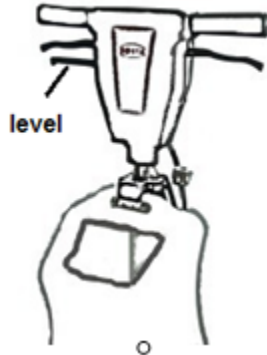

Figure 1
- 1, Pull the level in Figure 1, and adjust the handle in the suitable position for you,
1. Pull up the level in Figure 1, and adjust the handle